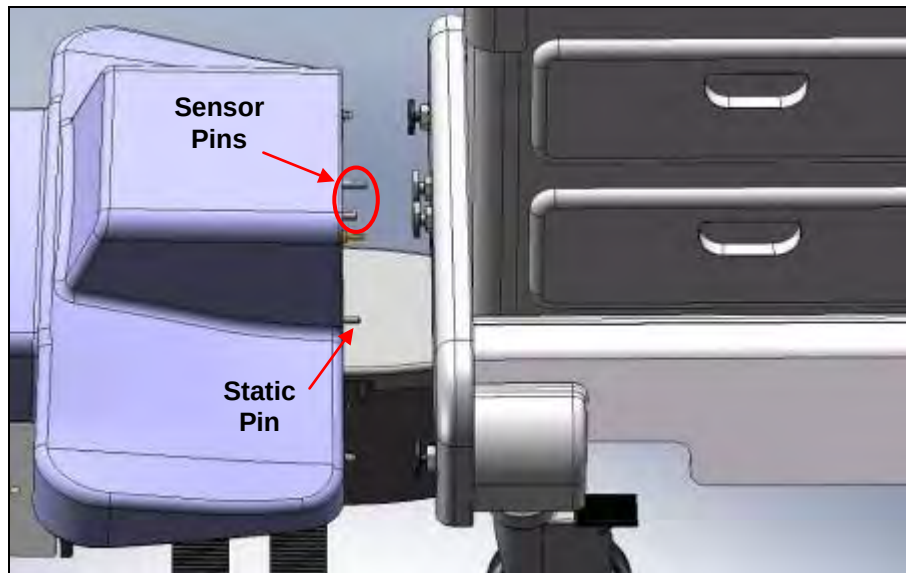
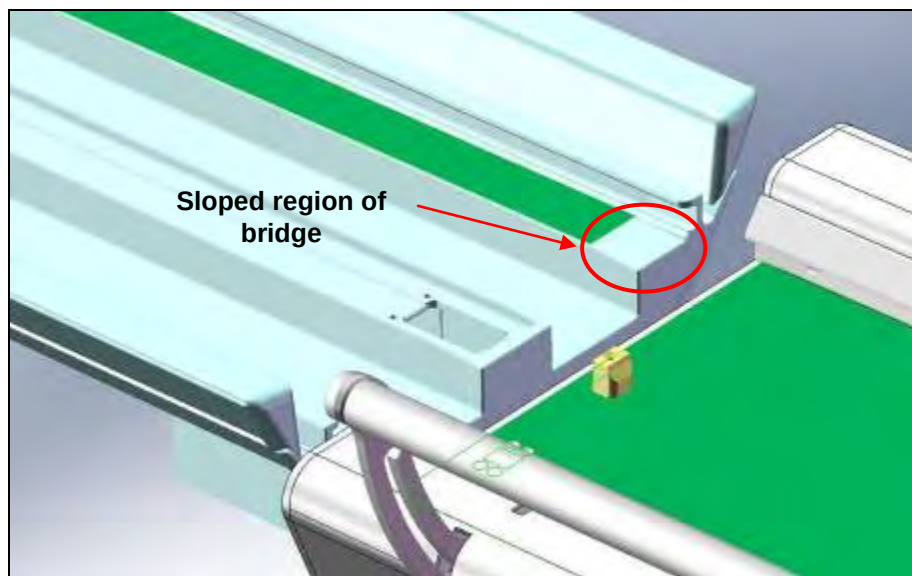

Figure 18
Figure 19
12. Use your finger to depress the MRI's docking pins (circled in Figure 18) until a slight click is heard and hold it while pressing the scanner control button to advance the LPCA into the bore of the scanner until it stops.
13. Align the Vanguard to the scanner carefully by rolling it up to the centre of the scanner, ensuring that the bumper does not contact the static pin protruding from the dock (Figure 18). The static pin should be aligned with the corresponding clearance pocket in the bumper. Measure the height difference of the stretcher LBS and the scanner bridge (Figure 19) with an MRI compatible ruler and straightedge or other
5. Sighting along the length of the flat surface of the stretcher and the scanner's bridge (Figure 19), adjust the casters at the head or foot end to correct for any pitch or roll angle of the stretcher.